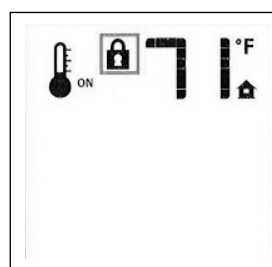

Figure 65. Lock ON.
- To activate the Lock, press the Mode key and UP Key at the same time. Fig. 65.